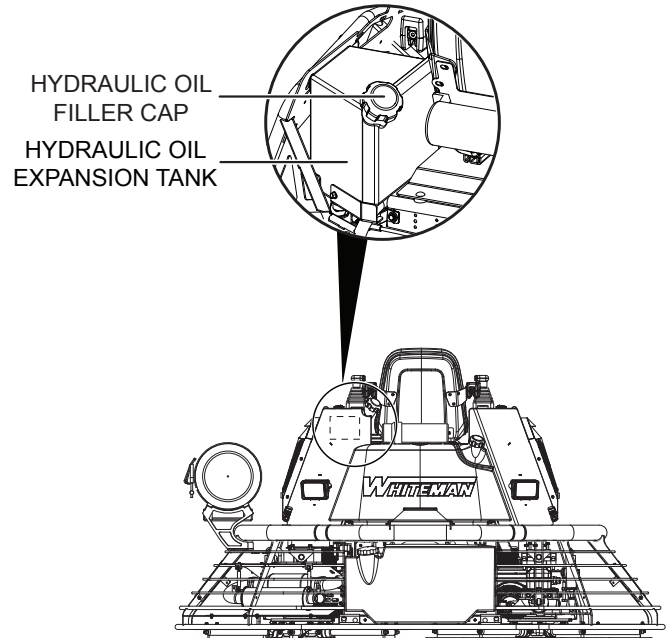

Figure 6. Hydraulic Oil Expansion Tank
2. Visually inspect the hydraulic oil expansion tank (Figure 6). For normal operation the fluid level should be visible when the filler cap is removed.